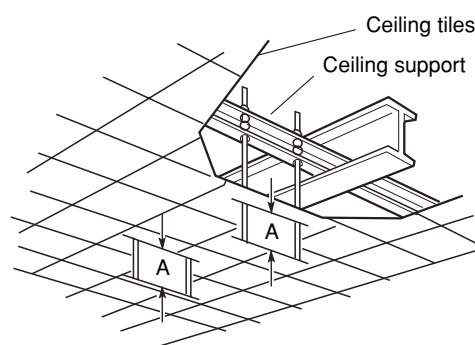
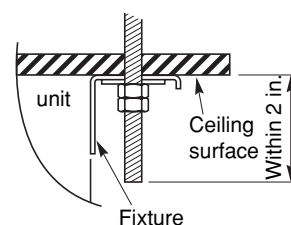

Fig. 3-41
Fig. 3-42
- (b) Use existing ceiling supports or construct a suitable support as shown in Fig. 3-41.
- (4) Screw in the suspension bolts, allowing them to protrude from the ceiling as shown in Fig. 3-41. The distance of each exposed bolt must be of equal length within 2 inches. (Fig. 3-42)